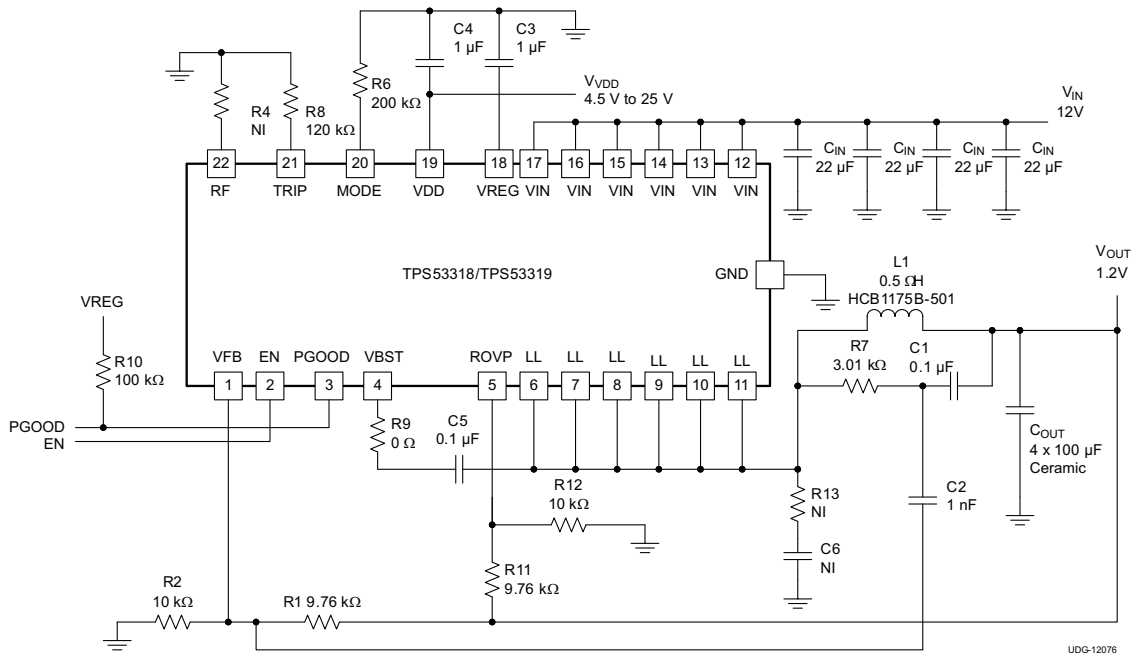

Figure 45. Typical Application Circuit, Redundant OVP Enabled
The redundant overvoltage level is programmed according to the output voltage setting, it is controlled by resistors R11 and R12 as shown in Figure 45. Connect resistor R11 between the ROVP pin and the output, and connect resistor R12 between the ROVP pin and GND. This design recommends that the value of resistor R11 match the value of resistor R1 (or slightly higher), and that the value of resistor R2 match the value of resistor R12.
- Connect the ripple injection  $V_{OUT}$  signal ( $V_{OUT}$  side of the C1 capacitor in Figure 45) from the terminal of ceramic output capacitor. The AC coupling capacitor (C2 in Figure 45) should be placed near the device, and R7 and C1 can be placed near the power stage.